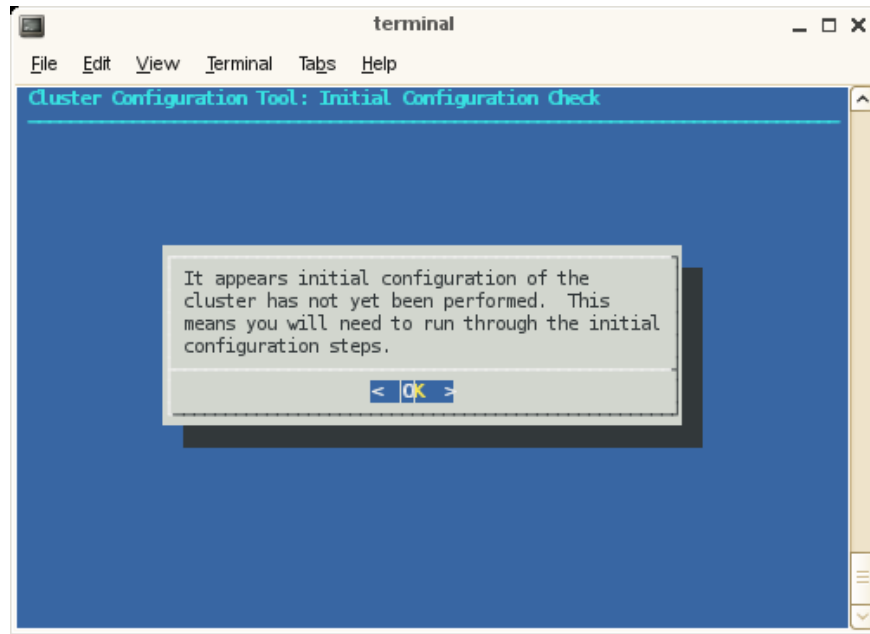

Figure 2-16 Cluster Configuration Tool: Initial Configuration Check Screen
2. The **Cluster Configuration Tool: Initial Configuration Check** screen appears, as shown in Figure 2-16 on page 59. This tool provides instructions on the steps you need to take to configure your cluster. Click **OK** to continue.